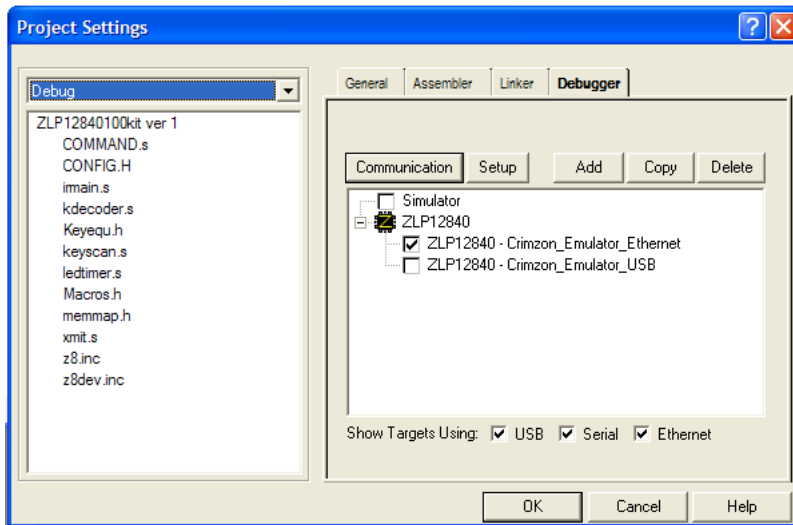

Figure 13. Project Settings, Debugger Tab
- a. In the Debugger tab (Figure 13), select ZLP12840 - Crimzon_Emulator_Ethernet and then click the Communication button.
- a. In the Debugger tab (Figure 13), select ZLP12840 - Crimzon_Emulator_USB and then click the Communication button.